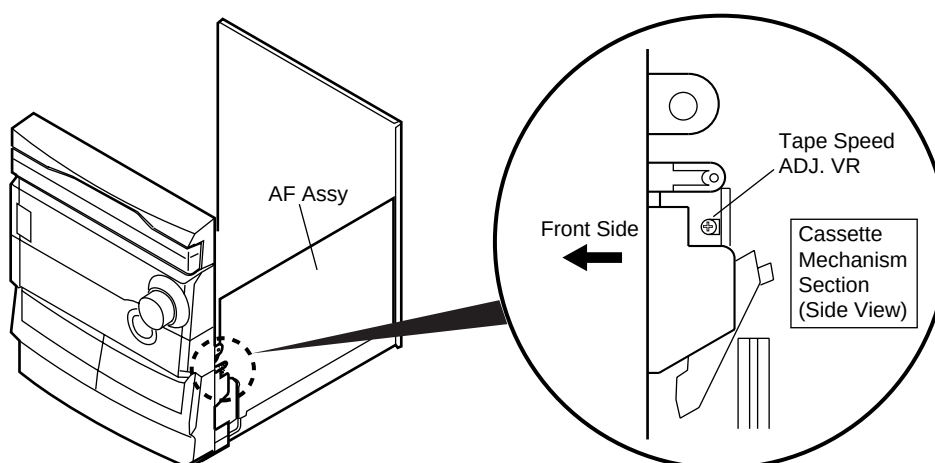
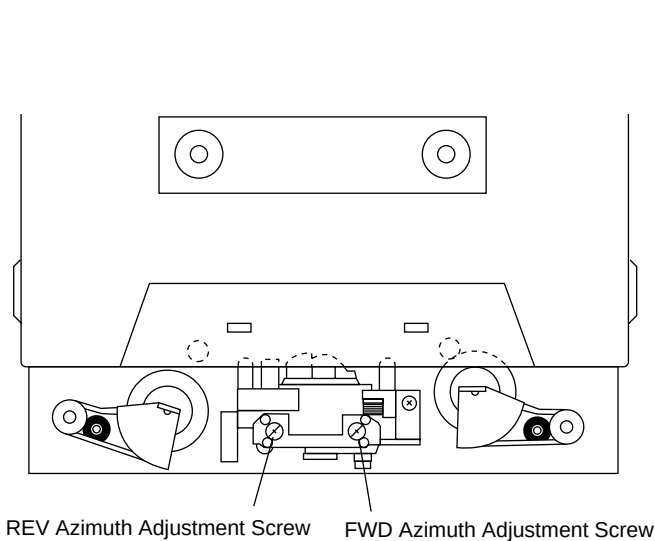
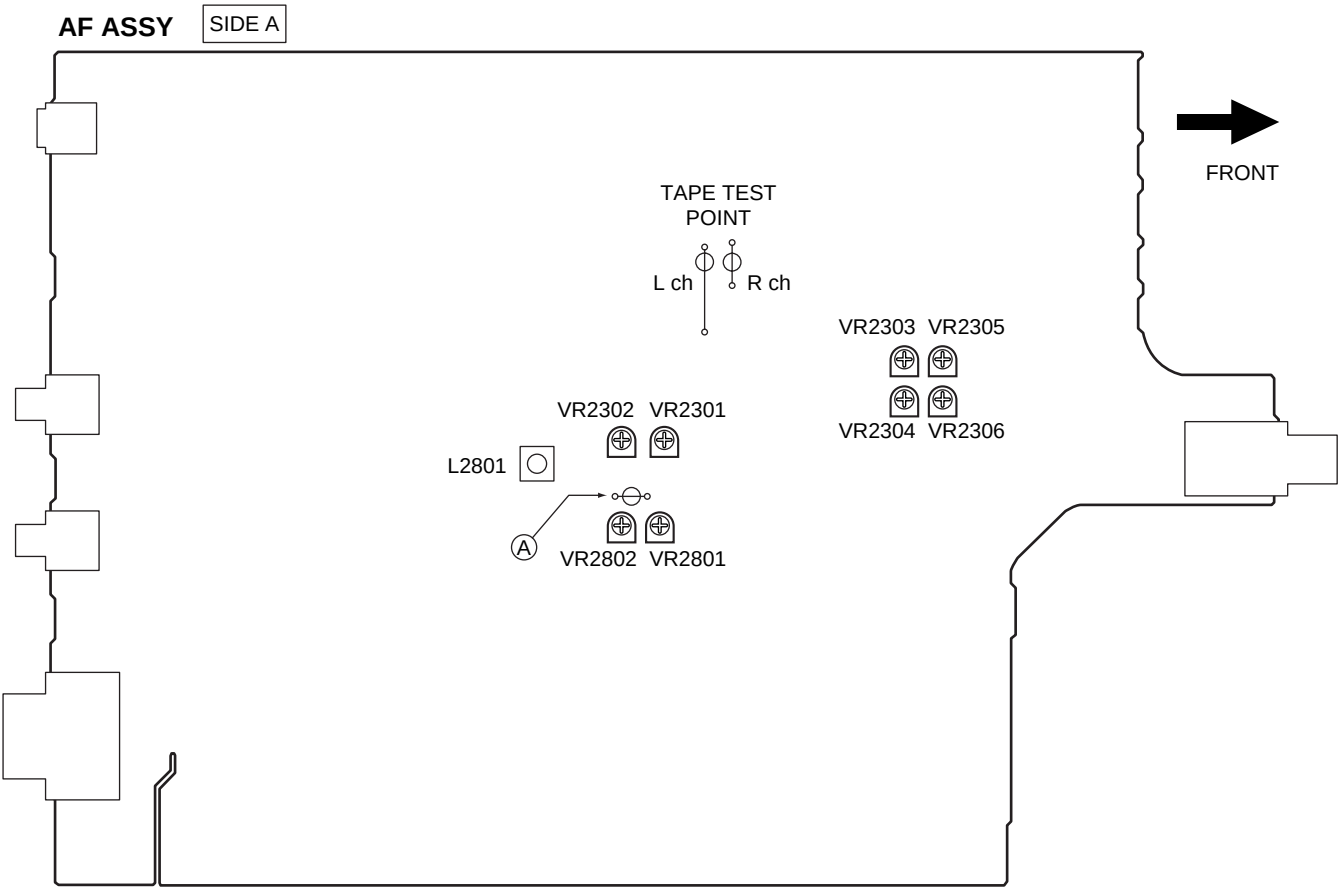

Fig.5 Tape Speed ADJ. Point
Fig. 7 Head Azimuth Adjustment Screw
Fig.9 Adjustment and Measurement Points
• Adjustment points and test points are shown in Fig.5, Fig.7 and Fig.9.